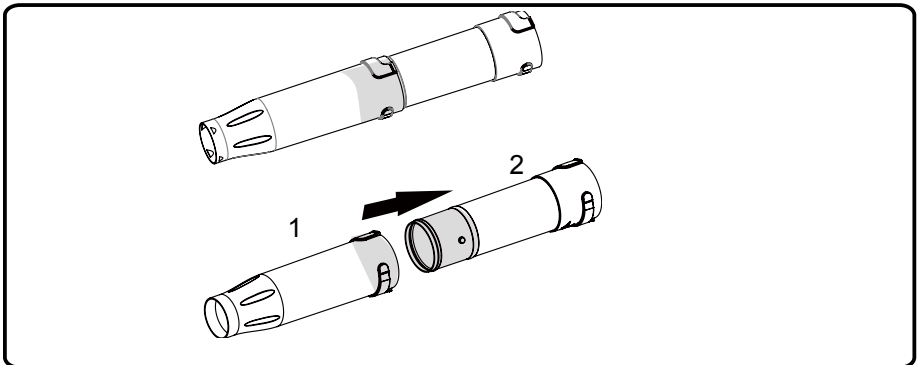

Fig.3
3. Install tube 1 onto tube 2 and twist clockwise until the tube locks into position. (See Fig.3)